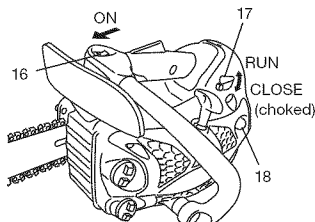

Fig. 10
#### Starting (Fig. 10, 11)
1. Set ignition switch (16) to ON position.
\*Push priming bulb (18) several times so that fuel flows through bulb into carburetor. (If so equipped) (Fig. 10)
2. Push the choke lever (17) down to choked position. This will automatically lock the throttle in starting position. (Fig. 10)
3. Pull recoil starter briskly, taking care to keep the handle in your grasp and not allowing it to snap back. (Fig. 10)
4. When you hear the engine want to start, with the safety trigger (19) pressed pull throttle trigger (20). This will release the throttle from starting position to run position and will automatically return the choke lever to run position. (Fig.10, 11)